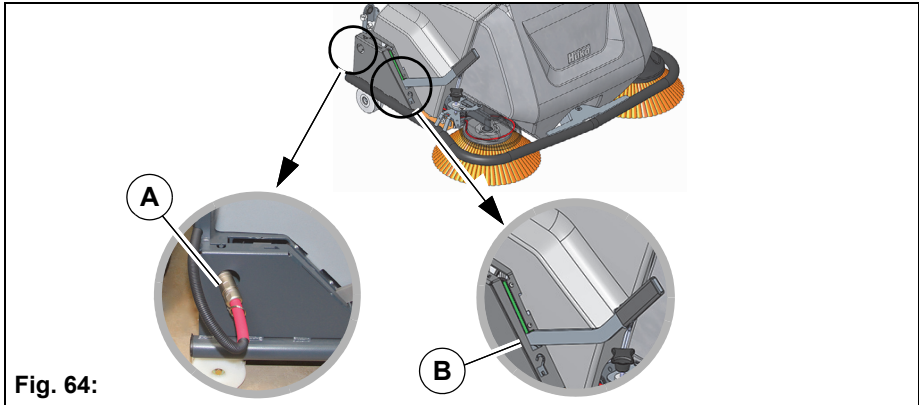

Fig. 64:
1. Unplug the plug at the machine side and plug into the retaining hole **Fig. 64-A**.
2. Move the lever to the change/parking position **Fig. 64-B**.